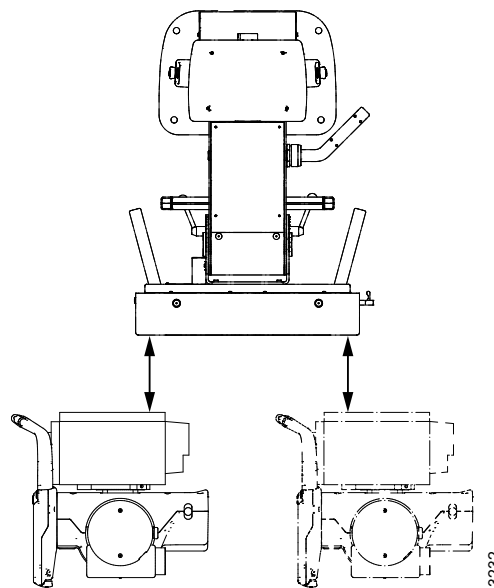

Fig. 4-118 Alignment of wallstand
2. Move the OTC and place the collimator 10 mm from the detector holder of the wallstand according to **Fig. 4-118**.